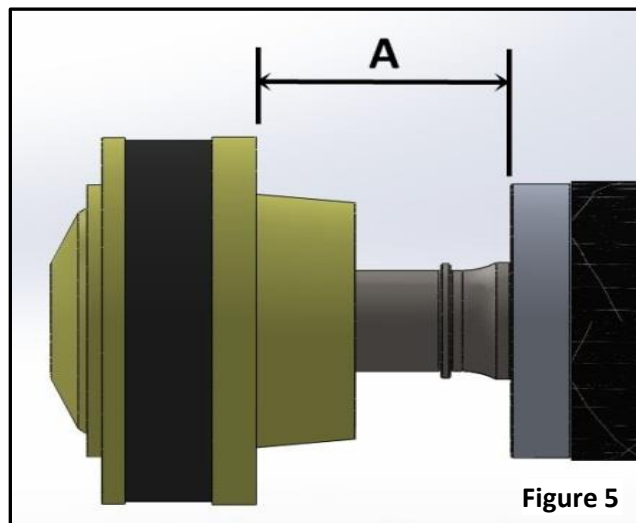

Figure 5
6. Measure the distance from the front CV joint to the driveshaft (**See Figure 5**) and verify a distance of 2-9/16" to 2-7/8".